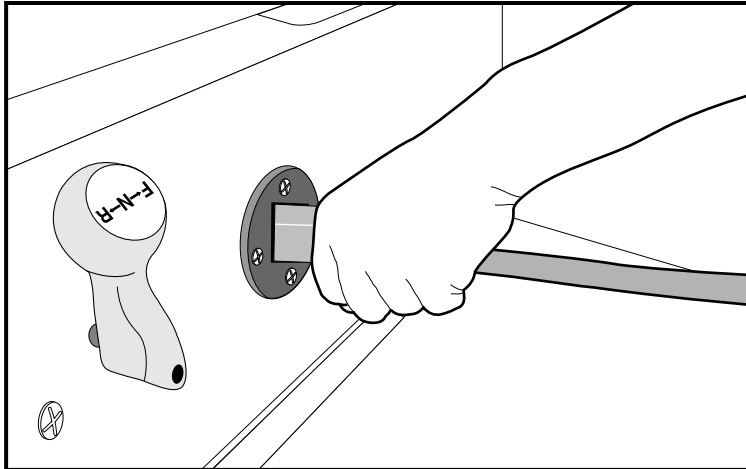

Figure 14-5 Charger Receptacle
2. Connect the charger DC plug to the charger receptacle located on the seat support panel (**Figure 14-5, Page 14-5**). The charger will turn ON automatically within 2 to 5 seconds after the DC plug is connected.